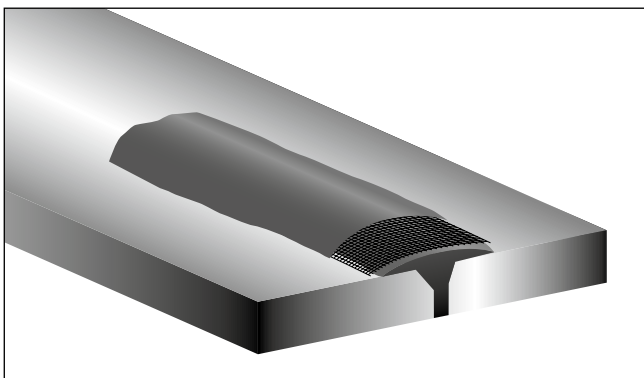

Figure 13. Over-coat the epoxy/tape application with another coating of epoxy.
6. **APPLY EPOXY:** Apply another 1/16" to 1/4" (1.5 – 6 mm) of epoxy over the reinforced mesh and smooth out the epoxy. To prevent lifting of the repair, be sure to feather the edges in keeping with the contour of the repaired equipment. (See Figure 13)